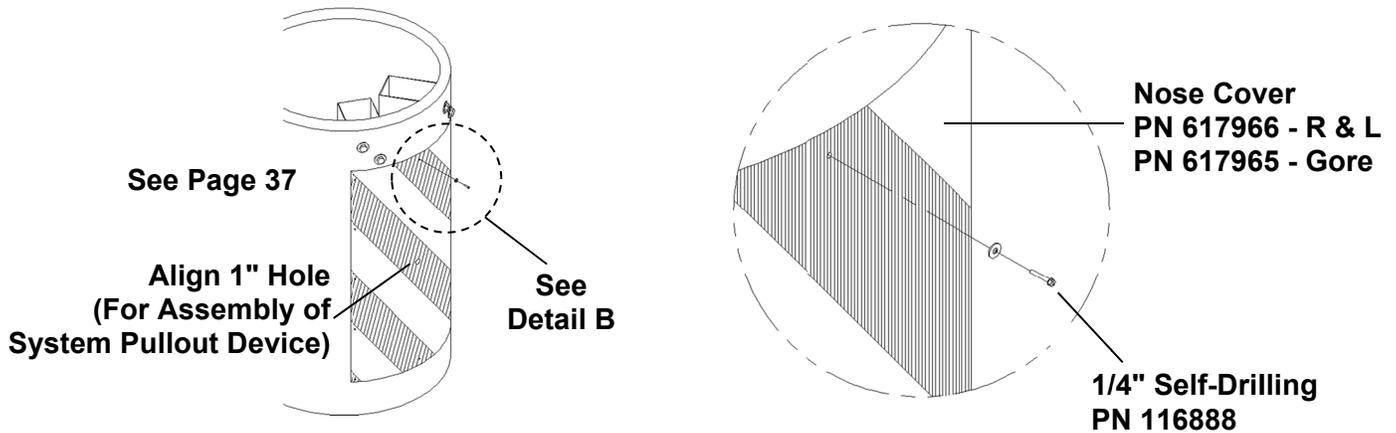

Figure 24 - Nose Cover Attachment
2. Align 1" diameter hole in Nose Cover with 1" diameter hole in Cylinder (see Figure 24).